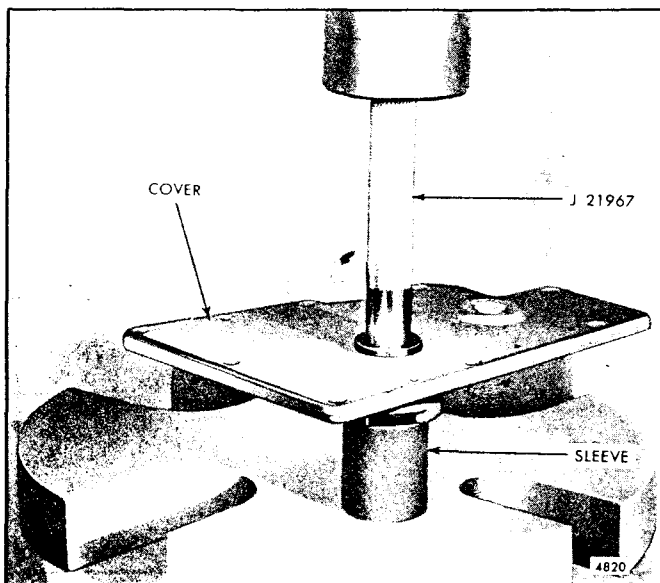

Fig. 3 - Removing Stop Lever Shaft Bushing from Governor Cover
- f. If bushing removal is necessary, support the inner face of the cover over the opening in the bed of an arbor press. Place the remover J 21967 on top of the stop shaft bushing and under the ram of the press, then press the bushing out of the cover (Fig. 3).